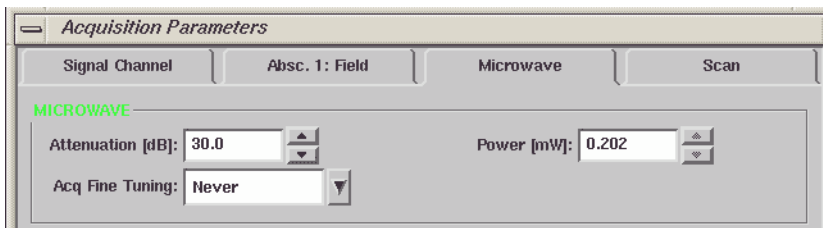

Figure 3-17 The microwave parameters.
8. **Check the Microwave parameters.** Click the Microwave tab. (See Figure 3-17.) Set the Attenuation to 30.0 dB.